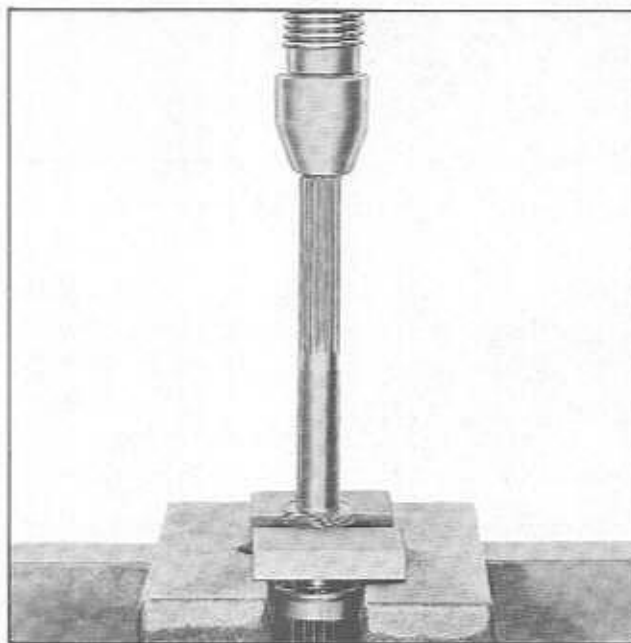

Fig. 7-27 Pressing Speedometer Drive Gear Off Main Shaft
1. Press off speedometer drive gear as shown in (Fig. 7-27).